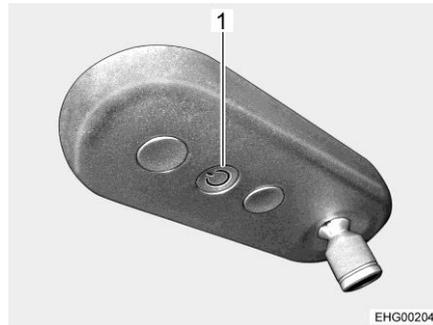

Fig. 95 Lamp, interior
- Press the ON/OFF button (Fig. 95,1).